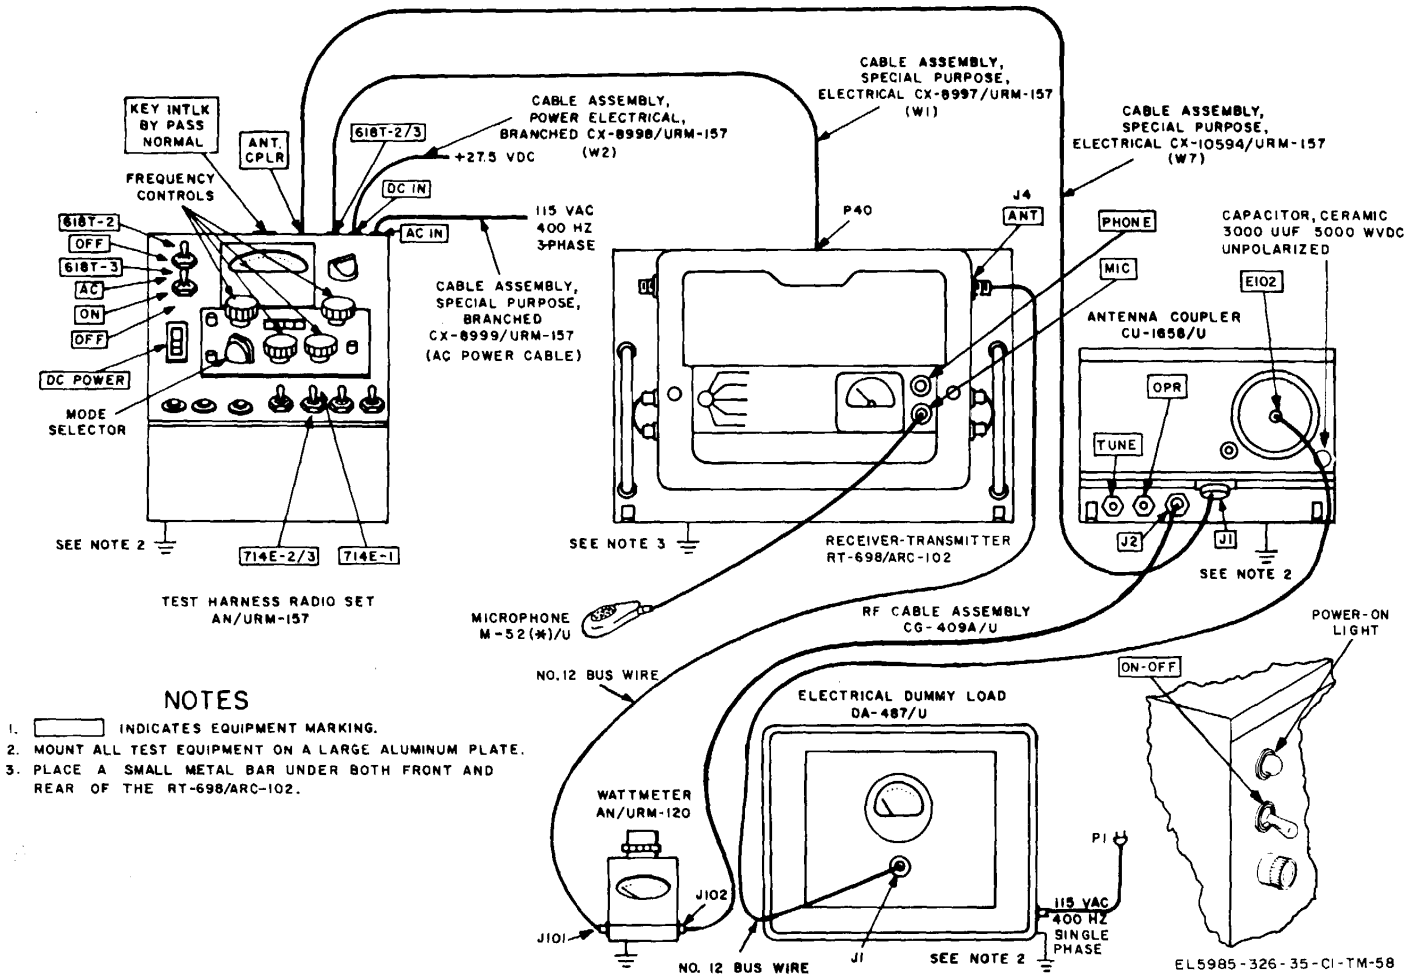

Figure 4-18. Demand surveillance and vswr test setup.
(fig. 4-18).
- (1) Perform preliminary steps (para 4-48).
- (2) Connect the No. 12 bus wire in series with the capacitor from E102 on the antenna coupler to J1 on the dummy load (fig. 4-18).
(3) On the dummy load, set the ON-OFF power switch to OFF.
(4) Connect the dummy load connector P1 to 115-volt ac, 400-Hz, single-phase power.
(5) make the initial settings (para 4-49).
(6) Start equipment (para 4-50).
(7) On dummy load, set ON-OFF power switch to ON. Check that dummy load power-on light is lit and blower is running.